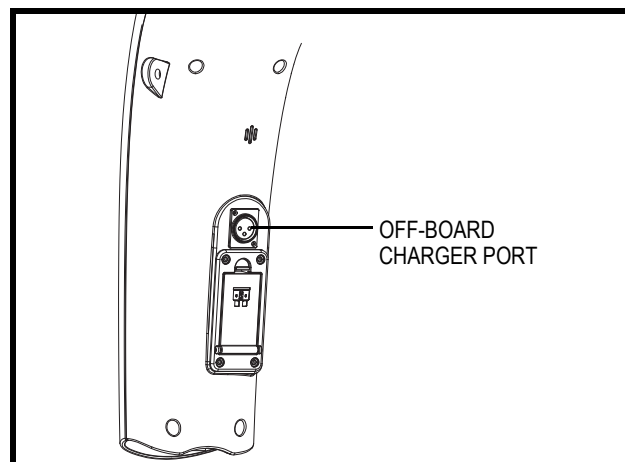

Figure 5. Off-board Charger Port (Tiller Mounted)
The off-board charger power cord plugs into this port during battery charging. The off-board charger port will be located on the tiller. **See figure 5.**
4. Plug the 3-pin charger power cord into the off-board charger port. See figures 5 and 11.